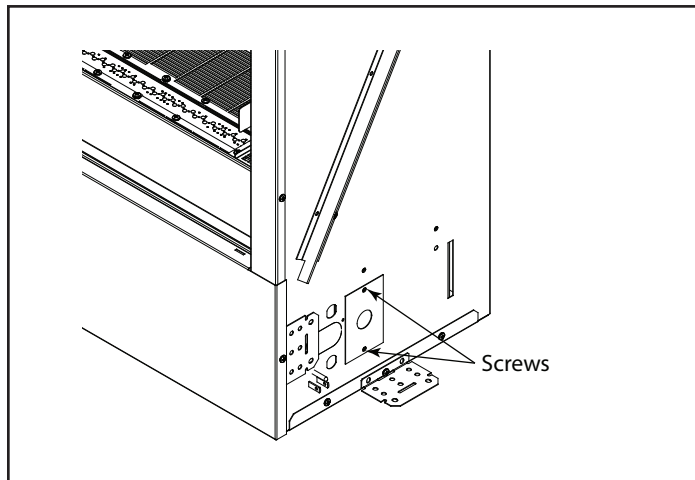

Figure 5.1. Access Panel Removal
- Remove (2) screws securing junction box access panel. See Figure 5.1.
- Wire junction box and reassemble. See Figure 5.1.